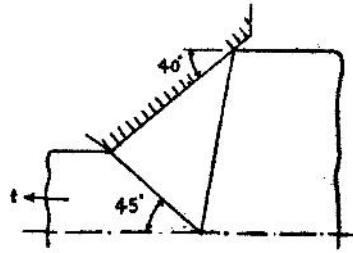

Fig. 5(a)
- 5 (a) Fig. 5(a) shows the upper bound field for drawing through a wedge shaped die. Determine the drawing stress $t/2k$; when the die is perfectly rough. Semi die angle and fractional reduction of